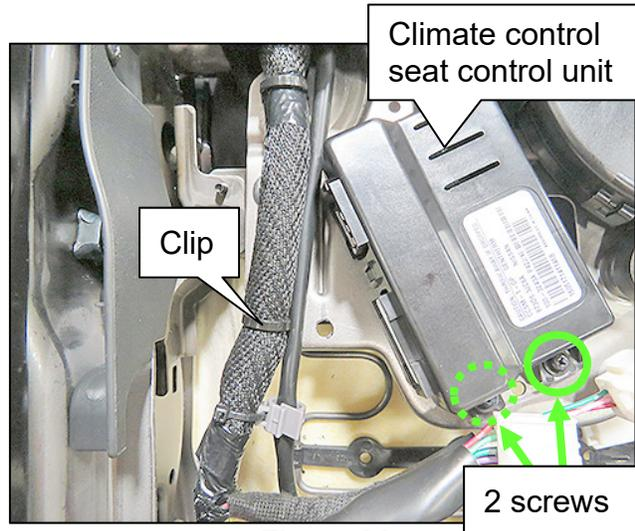

Figure 30
39. Reattach the clip removed in step 13 and shown in Figure 30.